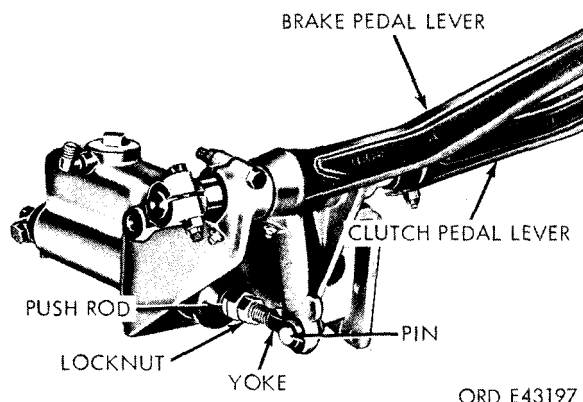
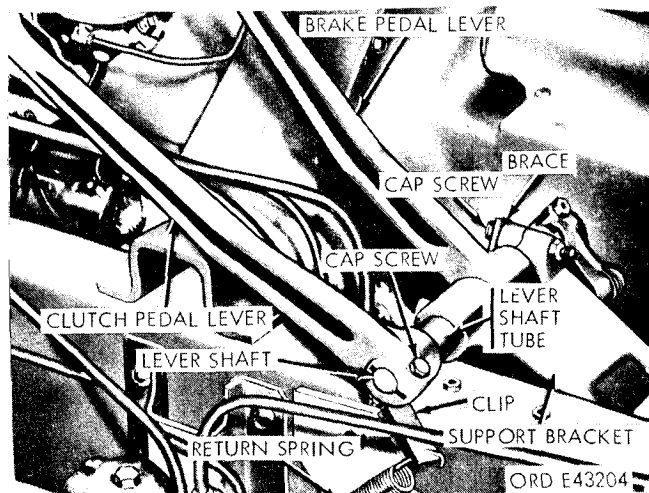

Figure 2-177. Brake pedal linkage with master cylinder attached.
Figure 2-182. Brake and clutch pedal assembly mounted to vehicle.
*(1) Free travel adjustment.*
*(a)* Remove the pin (fig. 2-177) securing the push rod yoke to the pedal lever.
*(b)* Hold the push rod to prevent it from turning, and loosen the locknut on the yoke (fig. 2-177).
*(c)* Holding the push rod, turn the yoke until the desired brake pedal free travel is obtained (fig. 2-177).
*(d)* Position the push rod yoke on the pedal lever and install the yoke pin (fig. 2-177).
*(f)* Tighten the locknut on the push rod yoke, holding the push rod to prevent it from turning (fig. 2-177).
*(2) Minor adjustment.*
(1) Remove the capscrew securing the clutch pedal lever to the lever shaft (fig. 2-182). Remove the pedal assembly from the shaft.
(2) Unhook the upper end of the clutch pedal return spring (fig. 2-182) from the clip bolted to the lower end of the clutch pedal lever.
(3) Remove the nut and screw (fig. 2-182) from the lower end of the clutch pedal lever, and remove the lever clip and key from the lever shaft.
(3) Remove the nut and screw from the upper end of the brake pedal lever (fig. 2-182), and remove the brake pedal stem from the lever.
(6) Remove the rubber bumper from the stem, and remove the brake pedal from the top side of the floor board.
(7) Remove the nut and screw from the control rod lever, and remove the lever and key from the lever shaft.
(8) Remove the cotter pin from the end of the yoke pin (fig. 2-177), remove the yoke pin, and remove the push rod yoke from the lower end of the brake pedal lever.
(9) Unhook the upper end of the brake pedal return spring from the lower end of the brake pedal lever.
(10) Remove the nut and capscrew (fig. 2-182) from the upper right side of the support bracket, and remove the lever shaft tube with the shaft and bushings from the brake pedal lever and support bracket.
(1) Position the brake pedal lever (fig. 2-182) at the support bracket, and install the lever shaft tube with the shaft and bushings in the bore of the bracket and lever.
(2) Aline the hole in the upper end of the support bracket brace (fig. 2-182) with the screw hole in the upper right side of the support bracket, and install the screw in the holes in the brace and bracket. Install the nut on the screw, and tighten it.
(3) Install the clutch control rod lever and key on the shaft, and secure it with the capscrew and nut.
(4) Position the control rod on the lower end of the control rod lever, install the yoke pin, and install the cotter pin in the end of the yoke pin.
(3) Install the clutch pedal lever (fig. 2-182) and key on the shaft. Position the return spring bracket clip at the lower end of the lever, install the capscrew in the holes in the lever and clip, and install the nut on the capscrew. Tighten the nut on the capscrew.
(6) Hook the upper end of the clutch pedal return spring to the clip at the lower end of the clutch pedal lever.
(7) Hook the upper end of the brake pedal return spring to the lower end of the brake pedal lever.
(8) Position the yoke (fig. 2-177) on the front of the master cylinder push rod at the lower end of the brake pedal lever, install the yoke pin, and install the cotter pin to the end of the yoke pin.
(9) Insert the brake pedal stem in the hole in the top side of the floor board, install the rubber bumper on the stem, and insert the stem in the hole at the upper end of the brake pedal lever.
(10) Install the capscrew and nut at the upper end of the pedal lever, and tighten it.
(11) Lubricate the brake pedal lever and lever shaft.
(12) Check the brake pedal free travel and adjust it if necessary (para 2-189 *a*).
(13) Check the clutch pedal free travel and adjust it if necessary (para 2-49).
(1) Remove the cotter pin from the end of the yoke pin, remove the yoke pin, and remove the master cylinder push rod yoke from the lower end of the brake pedal lever (fig. 2-177).